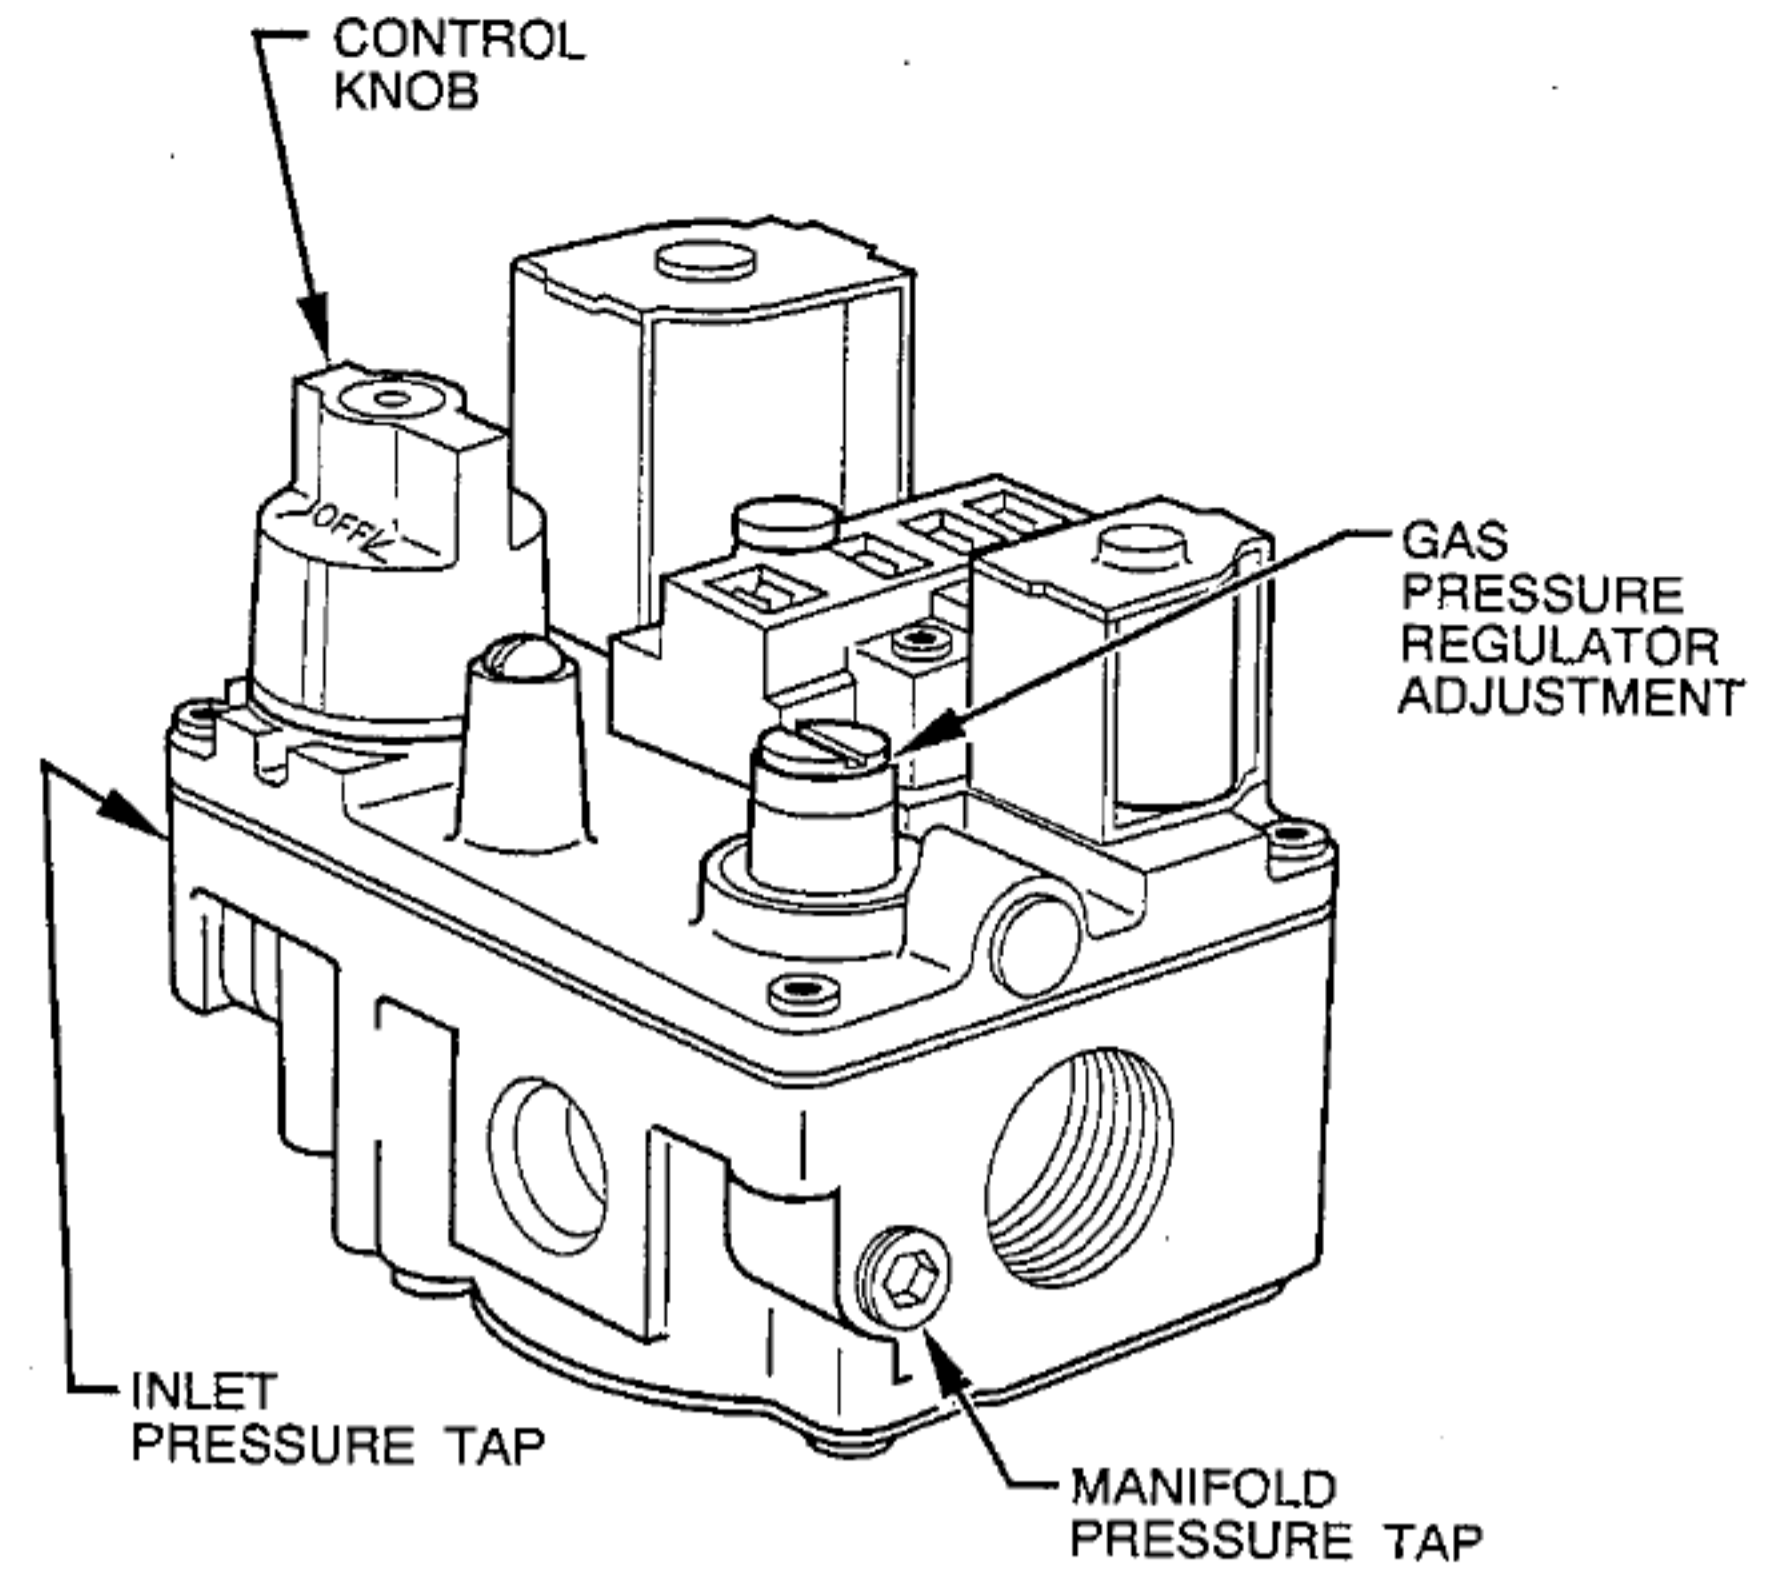

Fig. 11—Redundant Automatic Gas Control Valve
- (1.) Remove regulator adjustment seal cap. (See Fig. 11.)